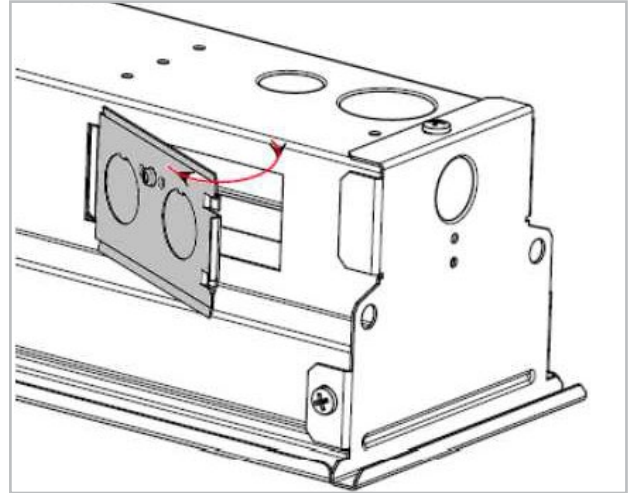

Figure 4: Hanger Tab
7. The Flexwhip is prewired to the Master fixture. Remove access plate on Satellite fixture and corresponding pairs (Ambient, Exam and Reading). Make Connection between low voltage wires using quick connects. find Power Cords. See **Figure 4**.
9. Remove Access Plate from MASTER fixture and find Power Cords. See *Figure 4*.
6. Remove Access Plate from MASTER fixture and find A Flexwhip connects Master to Satellite. See *Figure 4*.
7. Flexwhip is prewired to the Master fixture. Remove access plate on Satellite fixture and corresponding pairs (Ambient, Exam and Reading). Make Connection between low voltage wires using quick connects Power Cords. See *Figure 4*.